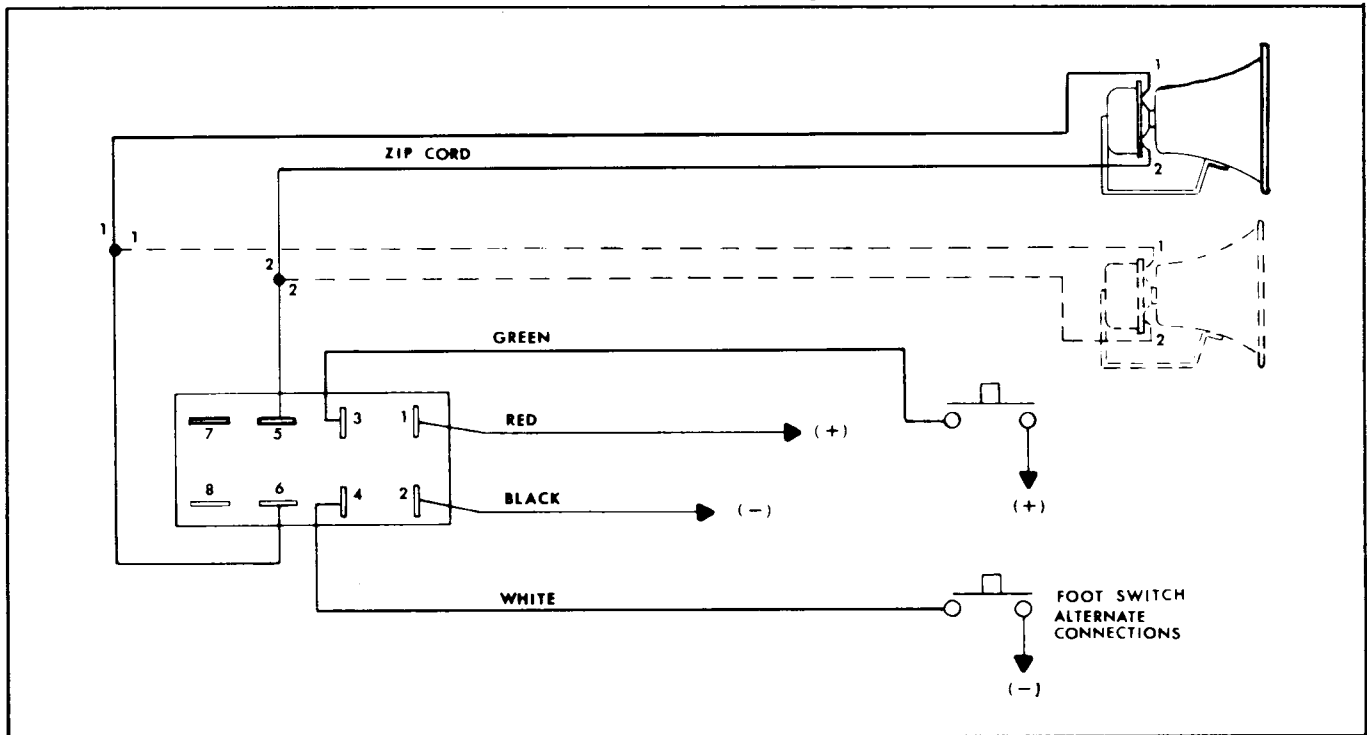

Figure 5. Power Cable Connections — Foot Switch Control.
When two speakers are used, it is necessary to connect the speakers in parallel and in-phase for optimum performance. This can be accomplished by connecting the two speaker leads marked "1" to the same power cable lead, and the two speaker leads marked "2" to the other power cable lead (see figure 5).
3. Connect one terminal of the foot switch to the green lead (P3, pin 3), and the other terminal to the positive (hot) side of the battery terminal (negative grounded systems). As an alternate method, connect one terminal of the foot switch to the white lead (P3, pin 4) and the other terminal to the vehicle frame or other good ground point (see figure 5).